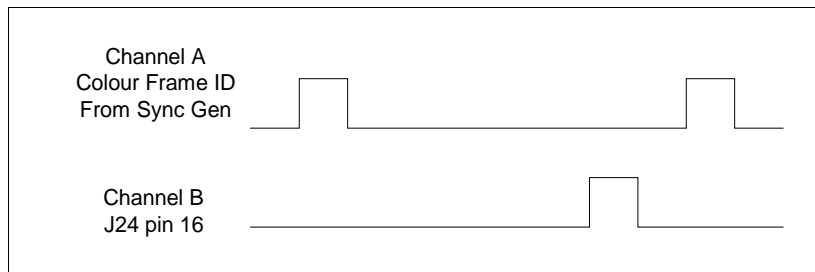
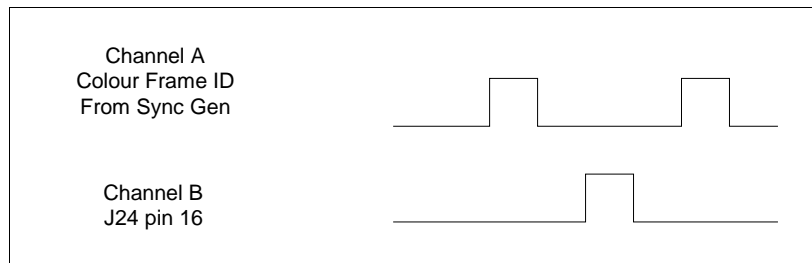

Figure 5-3: PAL Colour Frame Calibration
Figure 5-4: NTSC Colour Frame Calibration
- Use the **↓** key on the 8010TM to adjust the NOVOT down to its lowest value. Gradually increase the NOVOT value using the **↑** key until a pulse appears on channel B of your scope. This pulse should be approximately one video field in length and should occur in field 7 for PAL and field 3 for NTSC. The pulse on channel B should be two fields before the second pulse of channel A. (See Figure 5-3 for PAL and Figure 5-4 for NTSC). Write down the NOVOT value where the pulse first appears correctly.